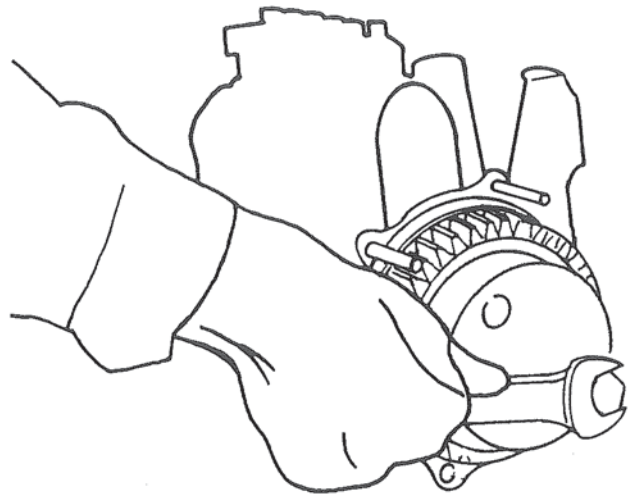

Figure 53. Removing Automatic Timer.
3. Remove automatic timer with injection pump gear from injection pump. Figure 53.